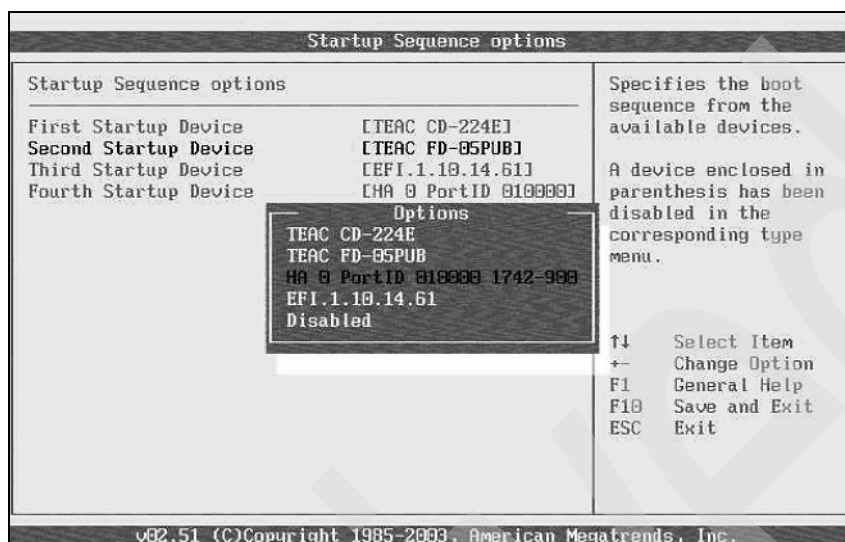

Figure 5-15 HS40 blade: Startup Sequence options: List devices
- d. Select a second startup device and press Enter to list all the startup devices, as shown in Figure 5-15.